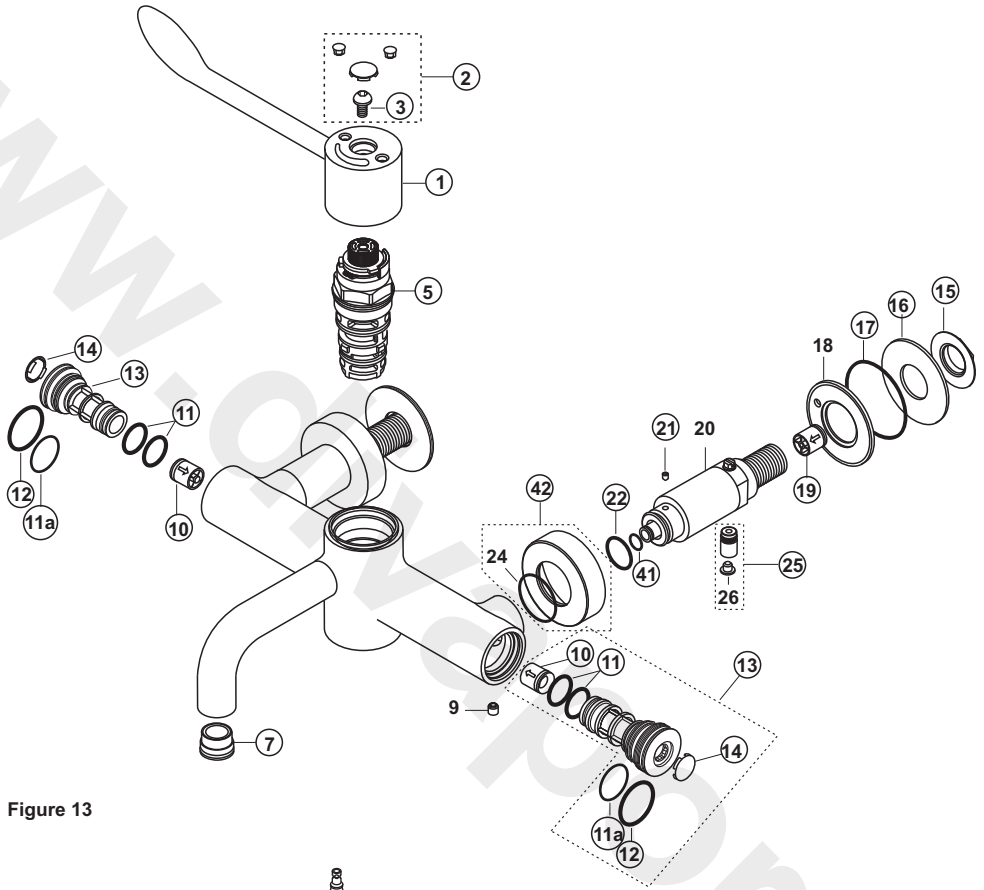

Figure 13
*To achieve a suitable flow rate where supply pressures are very low it may be necessary to remove the combined flow regulator (**item 10 figure 13**) and replace with a single check valve (**Item 19 figure 13**) to facilitate thermal disinfection.